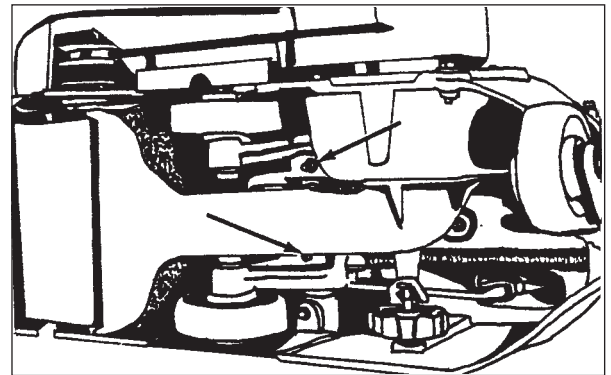

Figure 8
2. Lubricate the pivots. The pivots are behind the truck wheels. See figure 8.